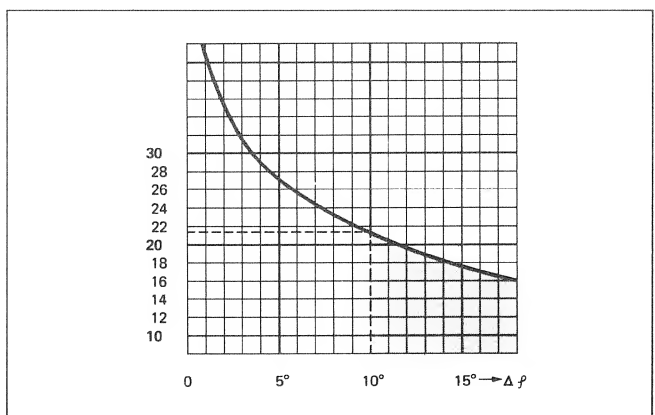

Fig.5.11
8. To find the phase angle difference according to fig.5.11 take the difference in level $P_s - P_d$. The angle of error can be read from the curve.